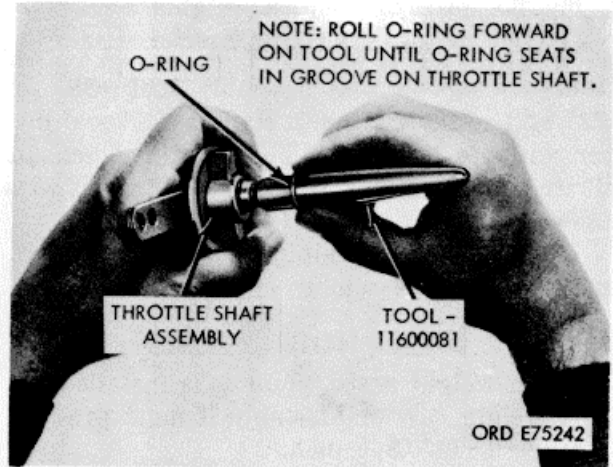

Figure 3-87. Throttle shaft O-ring installation.
(1) Install all pipe plugs, dowels, and clips using new O-Rings as required.
(2) Assemble throttle assembly in reverse order of disassembly (para. 3-102.b. (3)), installing new O Ring with O-Ring assembly tool (37, fig. B-28) as shown in figure 3-87.